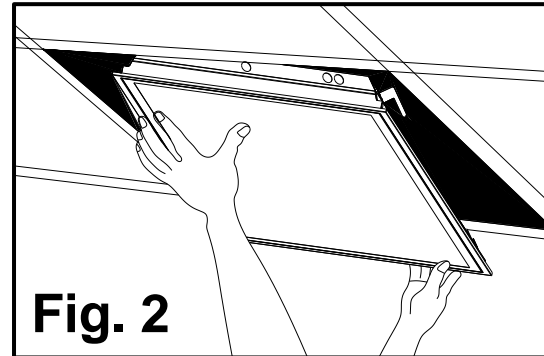

Fig. 2
5. Close the **door frame** (#1) and place the fixture on a 2 ft by 4 ft T-bar grid in the desired location [Fig. 2].